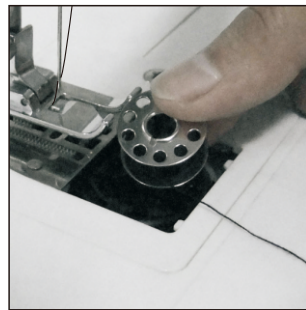

Fig.8
2. Put the new bobbin in the holder, with the thread going clockwise. Leave 10 cm of thread hanging out (Fig. 8)